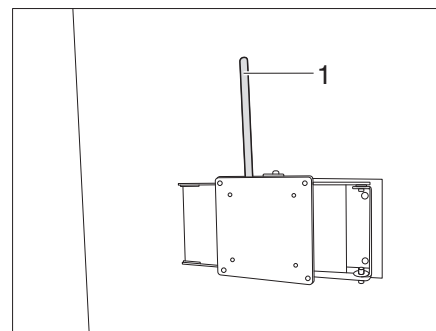

Fig. 134 Holder with jointed arm (variant 4)
- Pull the lever (Fig. 134,1).
- Push the lever (Fig. 134,1) back up into the initial position to lock.